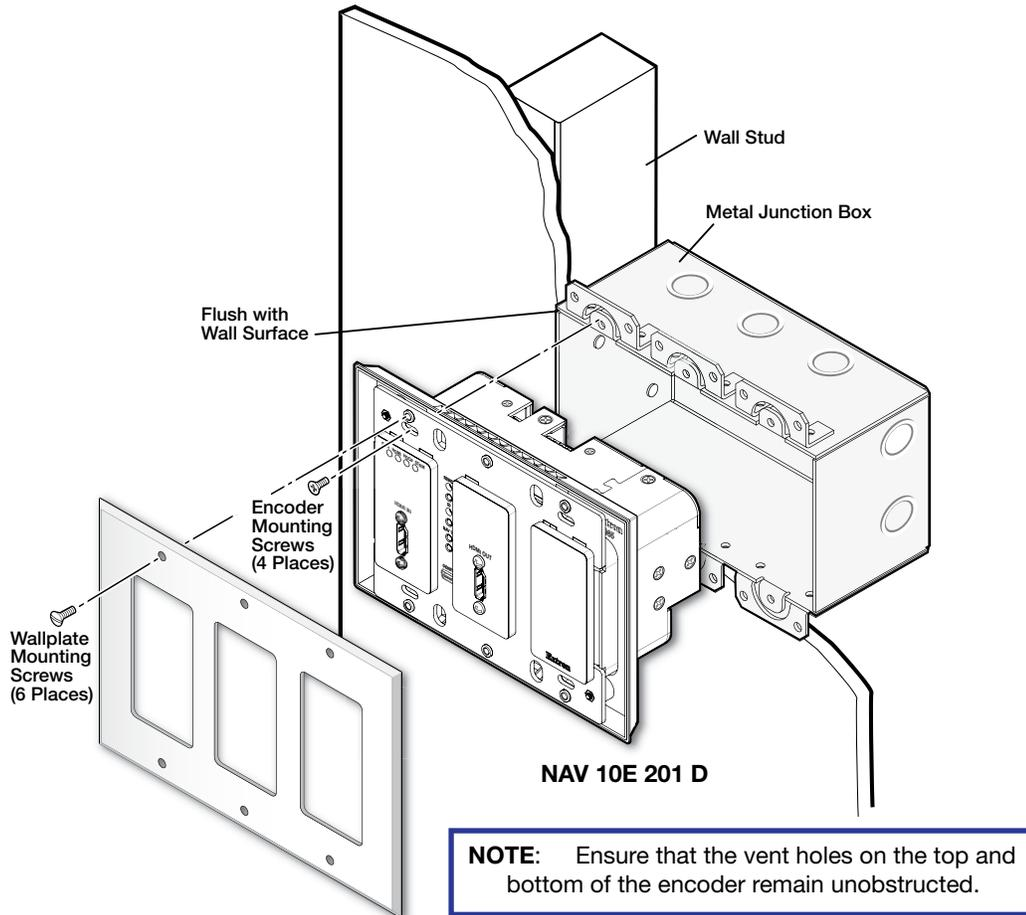

Figure 4. Installing the Encoder in a Junction Box
2. Secure the encoder to the junction box, wall or surface mounting box, or mud ring as follows (see figure 4, below):
1. Remove and retain the six mounting screws securing the faceplate to the encoder (see figure 4 on page 4). Remove the faceplate.